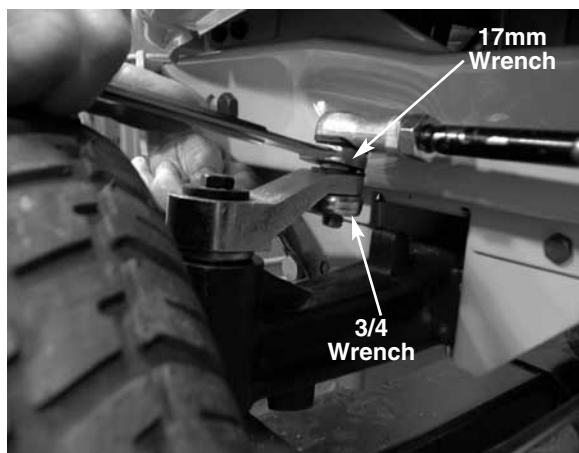

FIGURE 2.
4. Remove the front ball joint NUT from the steering arm using a 17mm and 3/4" open end wrench. See figure 2.